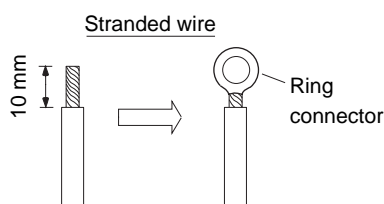

Fig. 28
- (1) Cut the wire end with a cutting pliers, then strip the insulation to expose the stranded wiring about 10 mm and tightly twist the wire ends. (Figs. 28 and 29)
- (2) Using a screwdriver, remove the terminal screw(s) on the terminal plate.
- (3) Using a ring connector fastener or pliers, securely clamp each stripped wire end with a ring connector. (Fig. 28)